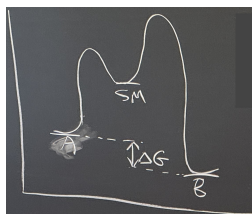

Figure 6.1: Energy variables relevant to thermodynamic selectivity.
- Energy diagram of a thermodynamically controlled reaction (Figure 6.1).
- **Selectivity** (of a reaction): The preference for one product (A) over another (B), where both A and B originate from a single common intermediate or starting material. *Given by*